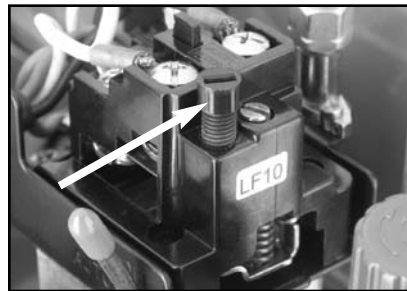

Figure 9. Pressure Regulator
5. Turn the pressure adjustment screw (**Figure 9**) a half turn clockwise to increase the tank pressure and a half turn counter-clockwise to decrease the pressure.